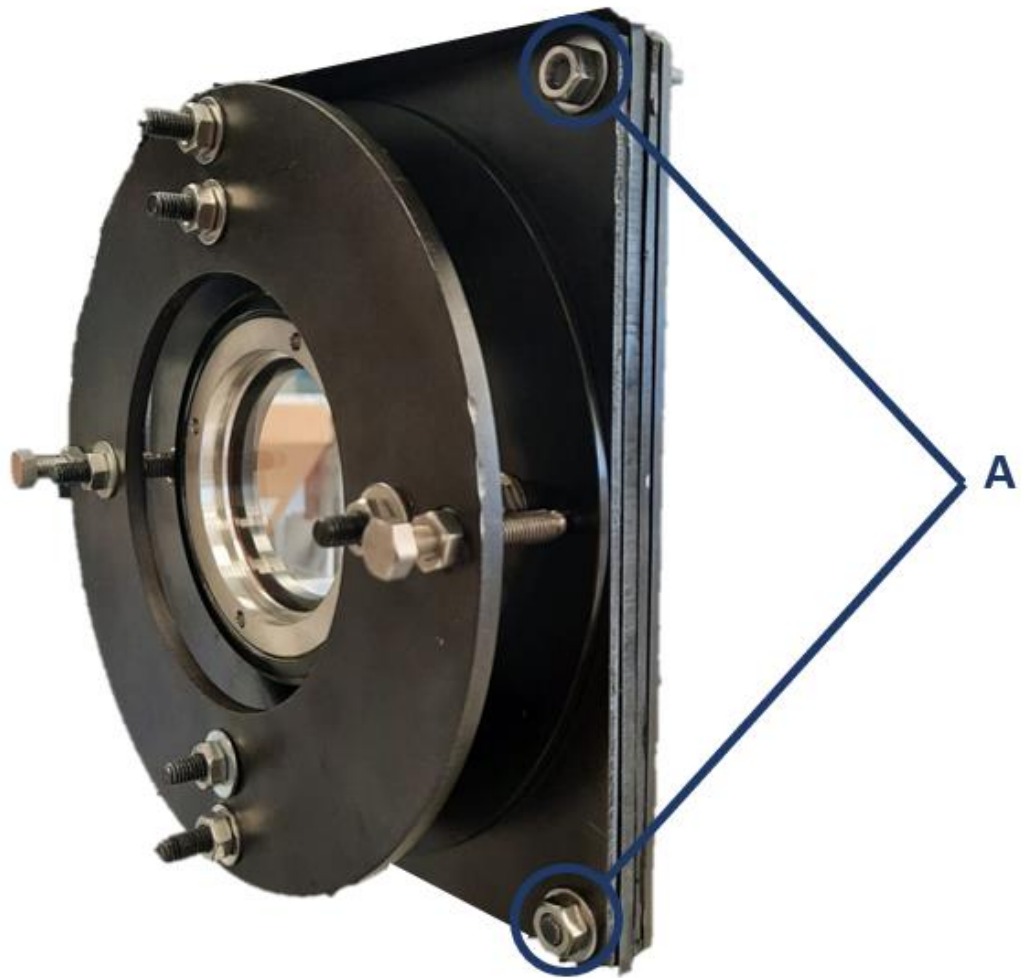

Figure 12: Tightening the detector plate screws
- 5) Attach washers and nuts to the four detector plate screws, Item A, Figure 12 and tighten.